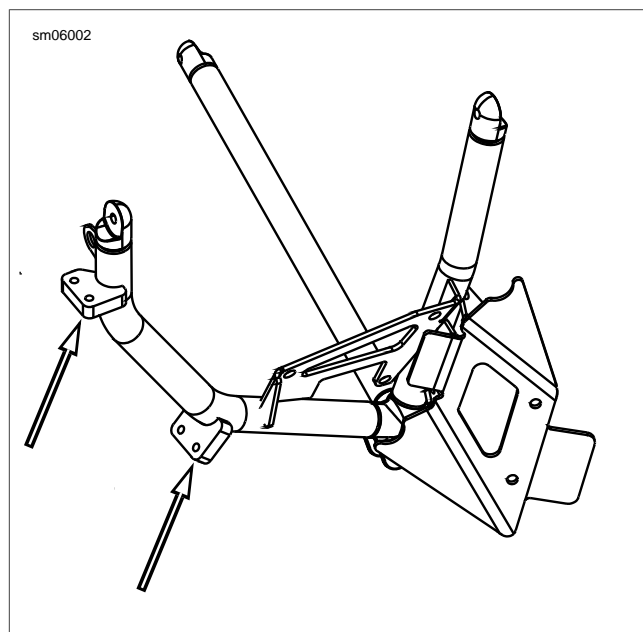

Figure 6-105. "V" Bracket with Siren Mounts for XB12XP Ulysses Police Model
10. See Figure 6-105. Remove Siren from "V"-bracket if installed.